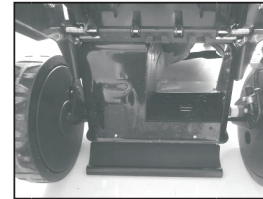

Fig. 11A
1. Lift the rear cover and remove the grass catcher.(Fig.11A)